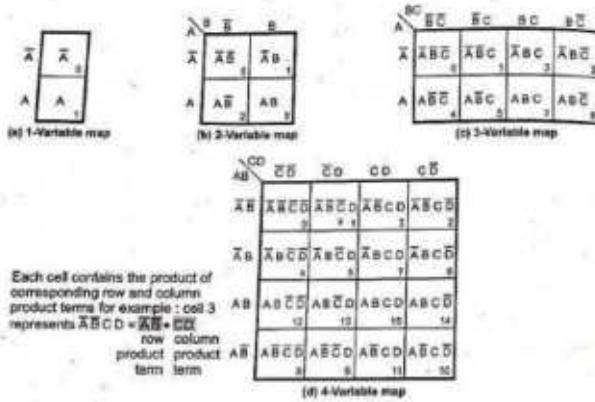

Fig. 4.2.2 1, 2, 3 and 4-variable maps with product terms
- Fig. 4.2.2 shows the way to label the rows and columns of a 1, 2, 3 and 4-variable maps and the product terms corresponding to each cell.
- For example, in Fig. 4.2.2 (b) the only change that occurs in moving along the bottom row from  $\bar{A}B$  to  $AB$  is the change from  $\bar{B}$  to  $B$ . Similarly, the only change that occurs in moving down the right column from  $\bar{A}B$  to  $AB$  is the change from  $A$  to  $\bar{A}$ . Irrespective of number of variables the labels along each row and column must conform to the single-change rule.